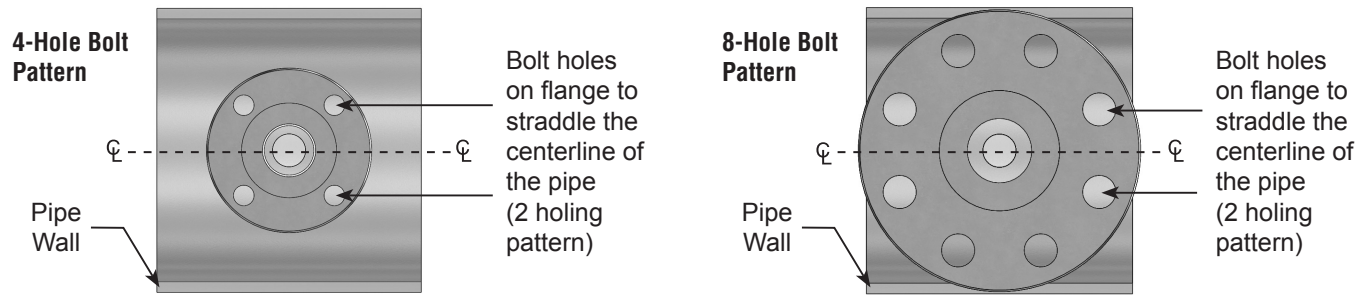

Figure 4. Bolt Hole Orientation
- Note the flange orientation per Figure 4. The bolt holes on the flange MUST straddle the centerline of the pipe (2-holing pattern). For V810 models, loosely bolt together the flanged opposite support, gasket and mounting flange and slide over the tip of the sensor and tack weld into position.